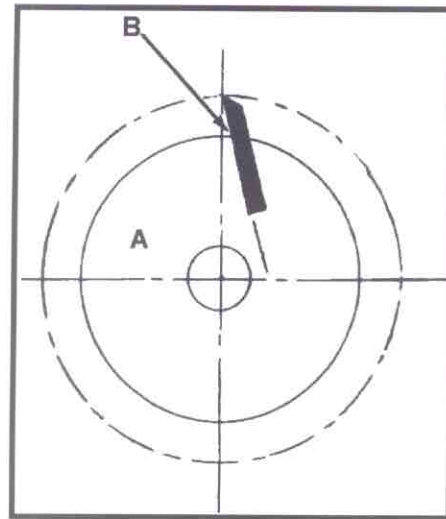

Fig. 1
- **Cutterhead** (A, Fig. 1)- metal cylinder that hold the planer knives or the molding cutters.
- **Planer Knife** - one of three knives found in the cutterhead used for planing. (B, Fig. 1)